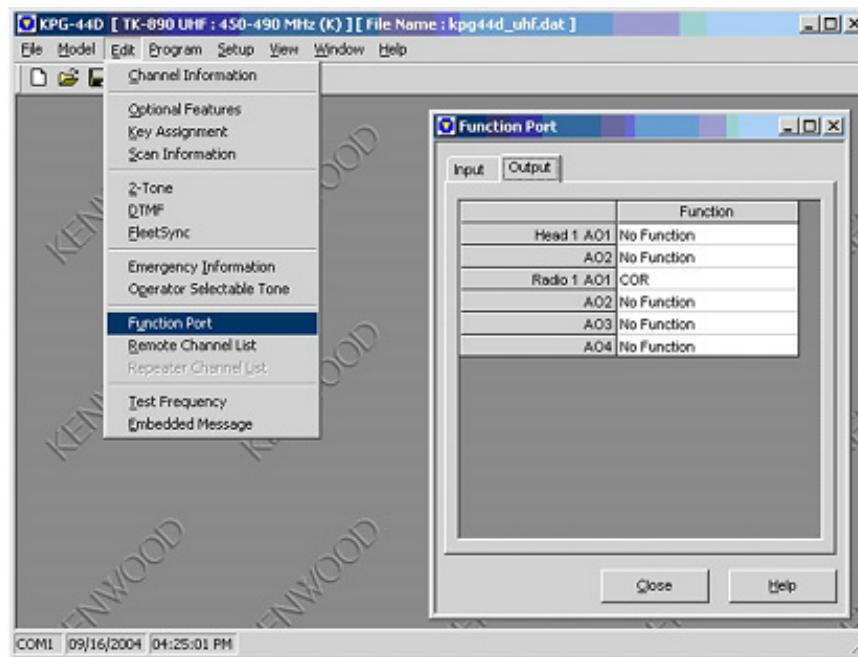

FIGURE 14. TK-x90 Function Port Output
2. Program the Function Port window for COR in Radio 1 AO1 (Figure 14).